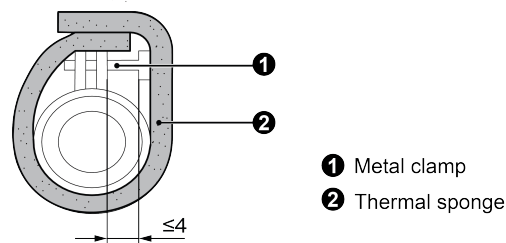

Fig.4.3.3
- (3) Perform thermal insulating for Pipe clamp and hose with gasket. (Perform the thermal insulation after the drainage system test is finished). See Fig.4.3.3.